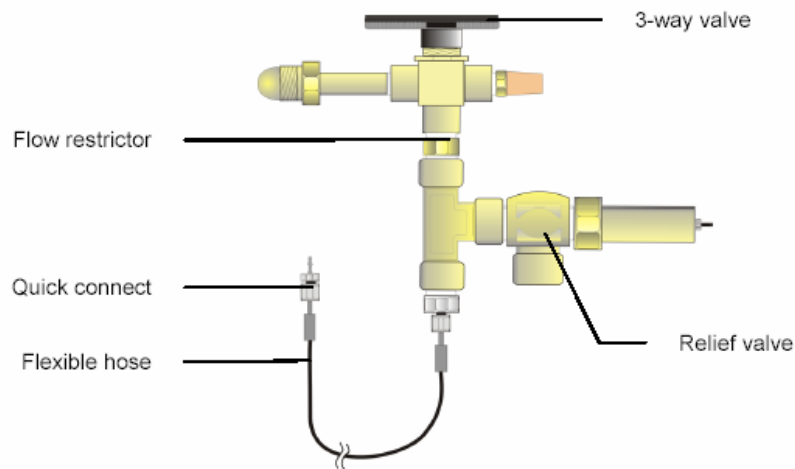

Figure 3. Filling the PetroPRO using Carrier Gas Fill Device
2. Connect the PetroPRO carrier gas fill device (Part No. MX380319) to the cylinder of carrier gas. See Figure 3 below.